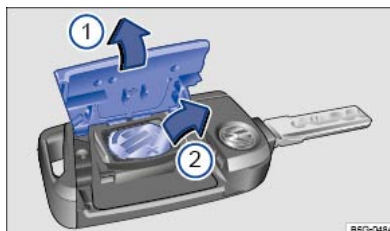

Fig. 62 Vehicle key: replacing the button cell.
Key to ⇒ Fig. 62 :
- Lever off the cover ⇒ Fig. 62 1 ⇒ 1.
- Lever the button cell out of the battery compartment ⇒ Fig. 62 2.
- Press the new button cell into the battery compartment ⇒ Fig. 62 2 ⇒ 1.
- Press the cover onto the housing ⇒ Fig. 62 1.